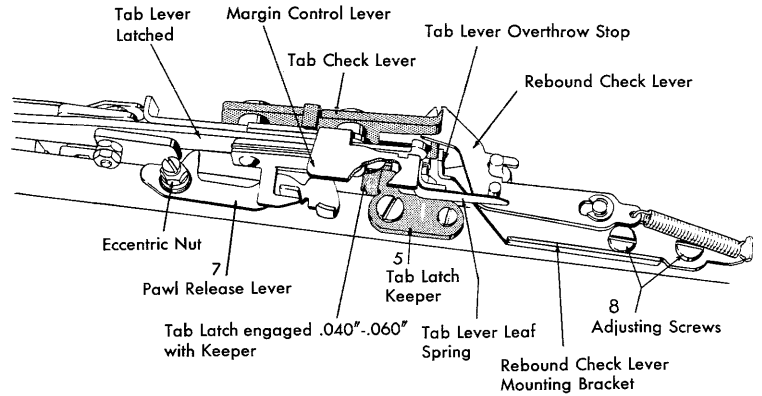

Figure 44. Tab Latch Keeper Adjustment
when the tab lever is held out by the keeper (Figure 44).
the pawl release lever for 1/4" escapement pawl clearance during tabulation (Figure 44). Observe this clearance by latching the tab lever by hand, preventing carriage movement, and sighting along the escapement rack.
9. Form the tab lever extension so that, with the tab cam at its high point, the extension finger has .000"-.005" (paper clearance) with the upright stop on the rebound check lever bracket (Figure 44).